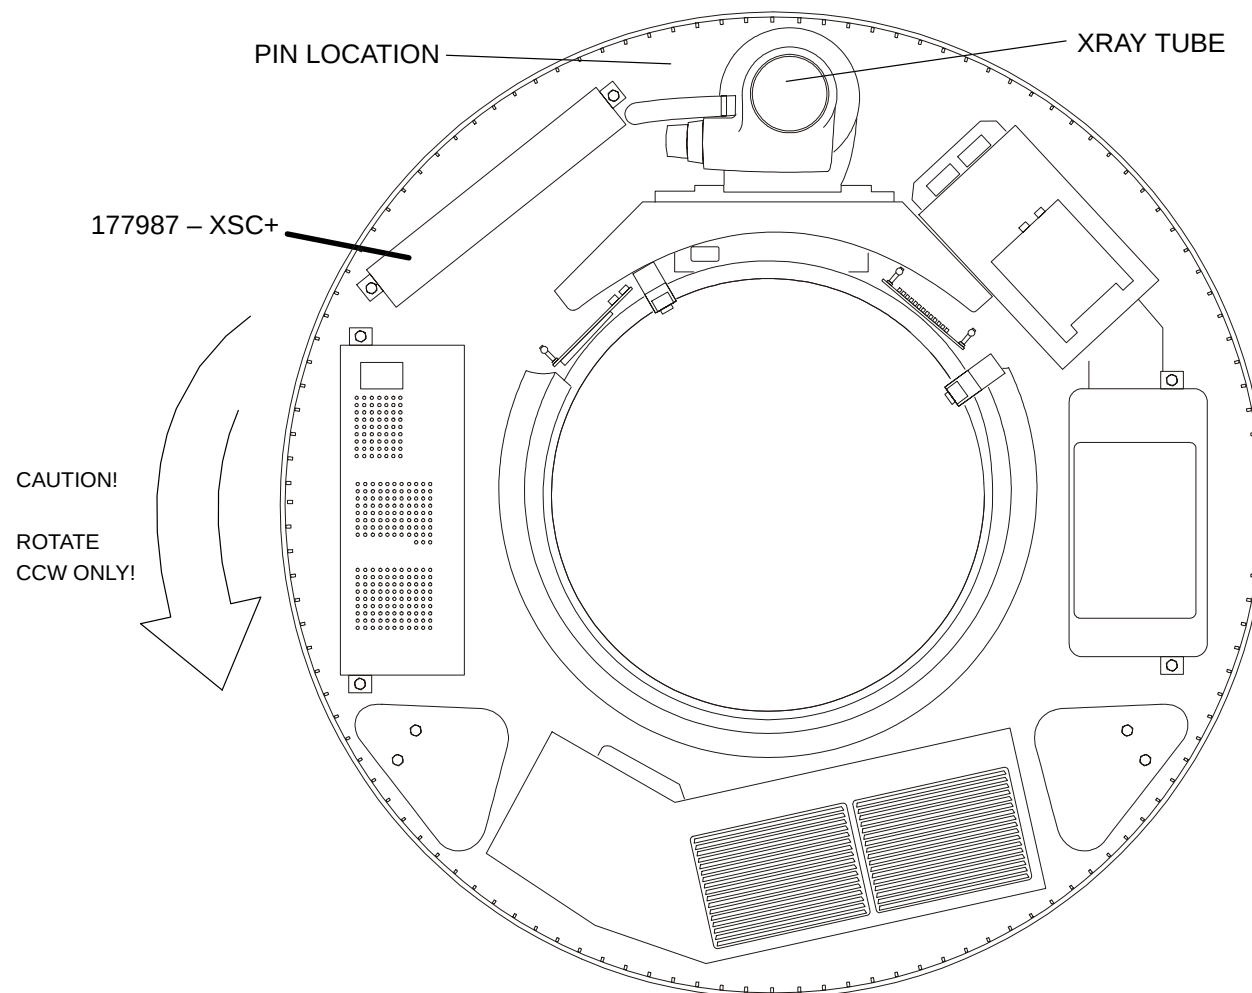

FIGURE 255 Scan Frame Pinned with Tube at 12:00 O'clock
3. Rotate the Scan Frame counterclockwise by hand until the X-Ray Tube is at the 12:00 position. Lock the Scan Frame with the Locking Pin. See Figure 255.